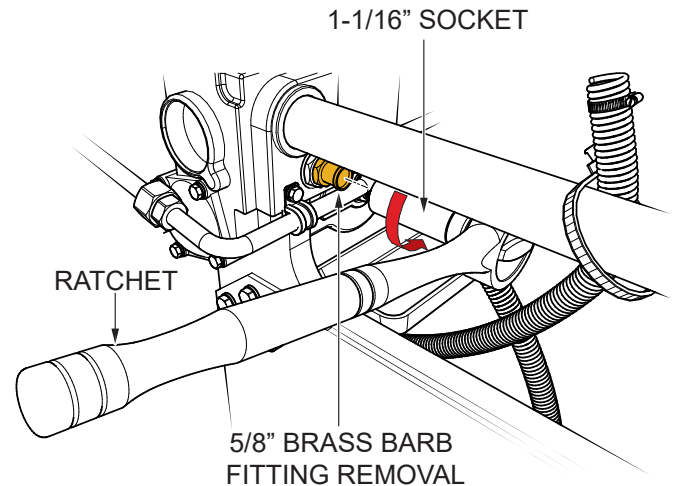

Figure 6. 5/8" Brass Barb Fitting Removal Engine Block Side
4. Next, use a 1-1/16" deep socket to **remove** the 5/8" **BRASS** barb fitting from the engine block (Figure 6).